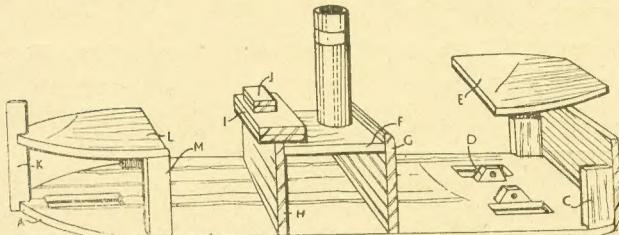

Fig. 3—General view showing actual construction
Looking at Fig. 3 we see the construction of the interior of the toy before the sides are put on. Each piece of wood lettered will be dealt with regarding size and fixing. Piece
**L** will be drawn out by laying the floor, piece A, on to smaller pieces of  $\frac{1}{2}$  in. stuff and drawing round it. A small notch will be cut in the piece L to fit round the bow post K, as seen in Fig. 3. The edges of piece B at the stern of the ship must be filed to the shape of the floor piece A before the sides can be put on.